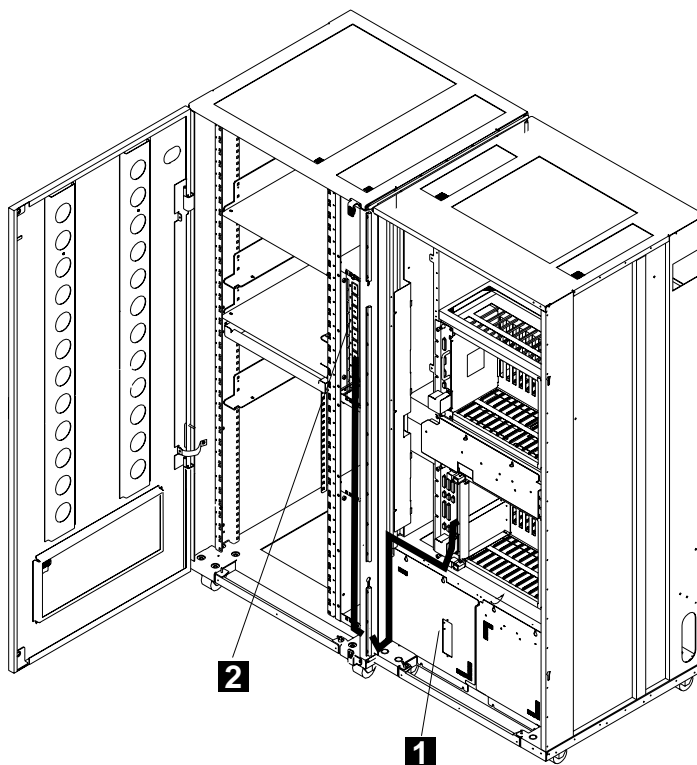
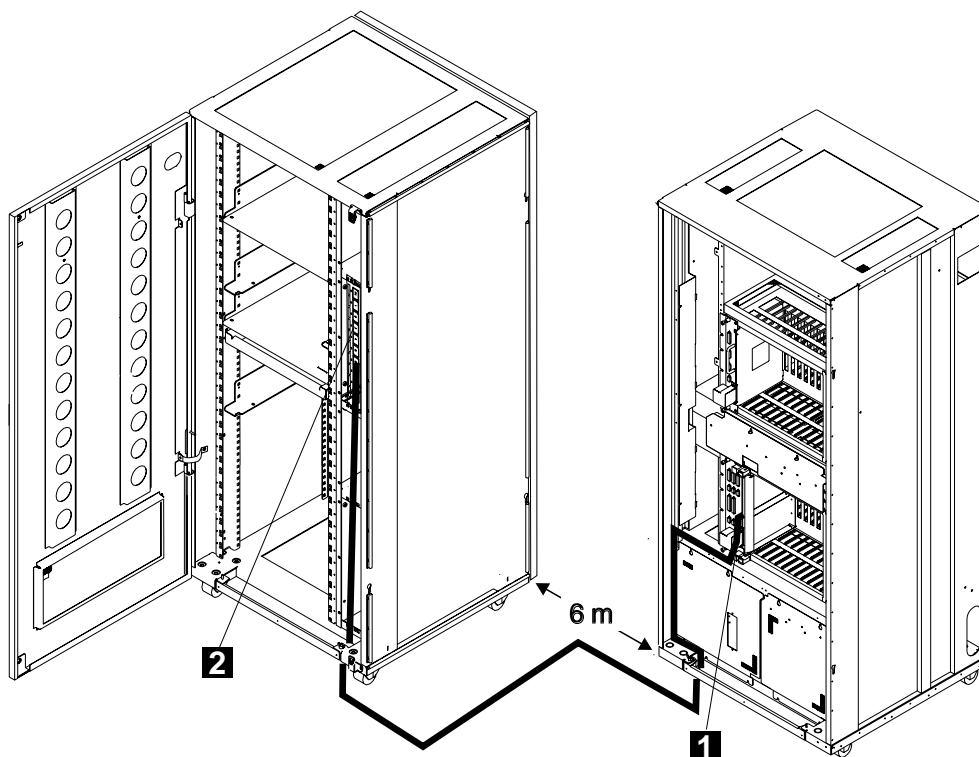

Figure 2-26. Routing the Cable from a TIC3 to a 8228 (Controller Expansion Attached)
Figure 2-27. Routing the Cable from a TIC3 to a 8228 (Controller Expansion Detached)
- b. ____ Route and connect the **8228** to the TIC3 using the token ring attachment cable PN 76F9441 (9 m, 27 ft). To route the cable, refer to Figure 2-26 on page 2-22 or Figure 2-27 on page 2-22.